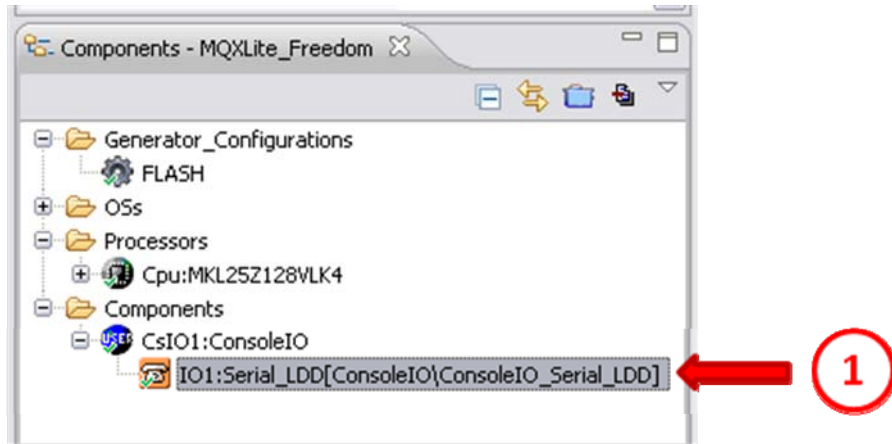
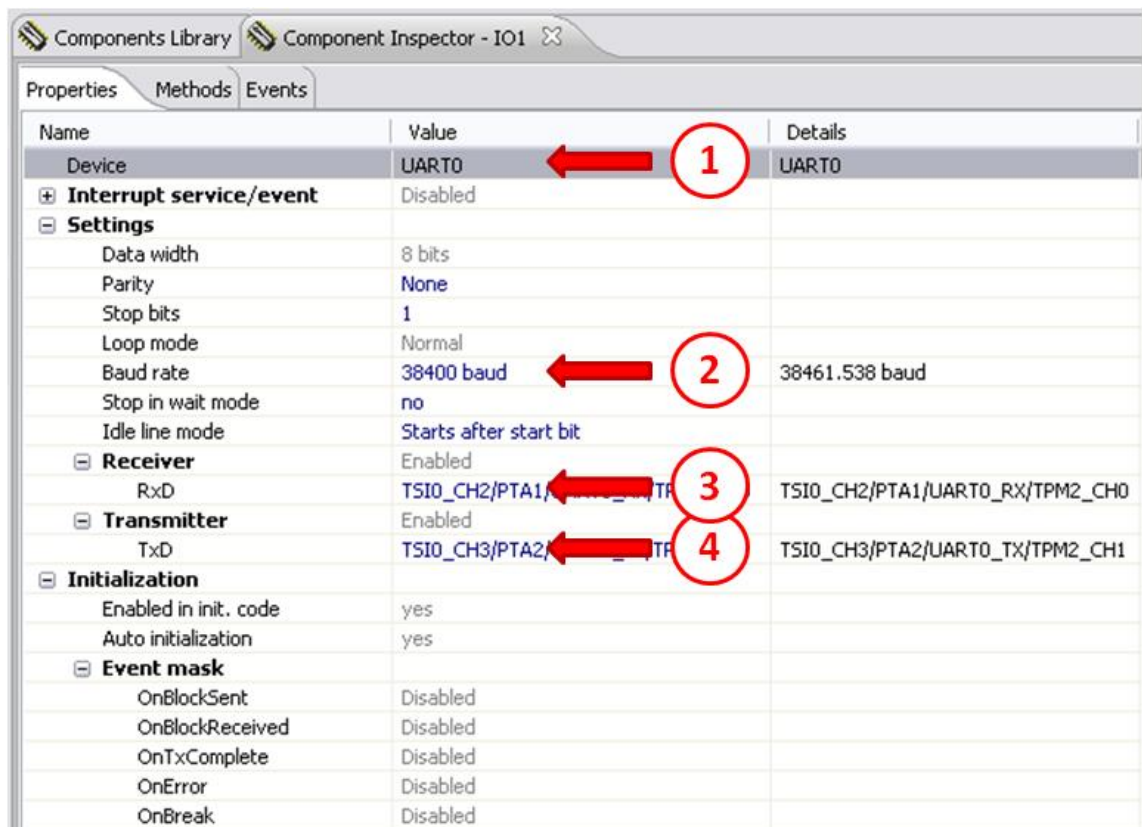

Figure 22. Subcomponents expand
Figure 23. ConsoleIO component settings.
2. It is necessary to configure the new added component. To do this expand the "CsIO1:ConsoleIO" component just added in the step before. By clicking in the "IO1:Serial_LDD[ConsoleIO\ConsoleIO_Serial_LDD]" option from the "CsIO1:ConsoleIO" component (look figure 22) the Component Inspector tap is updated and the values there will be updated as Figure 23 shows.